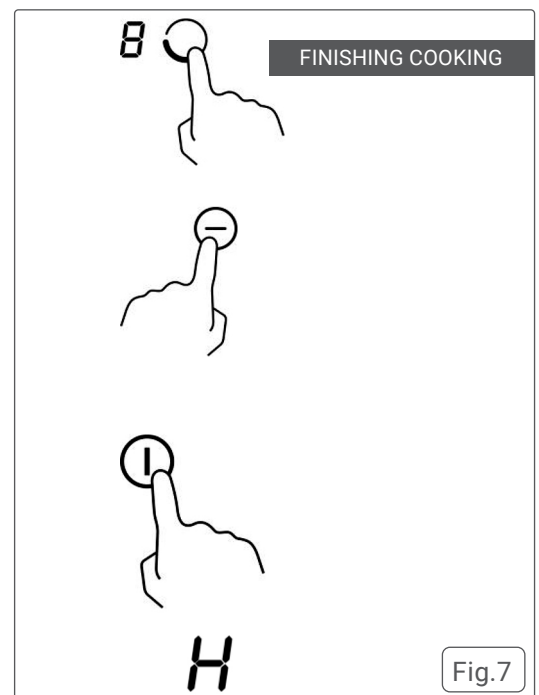
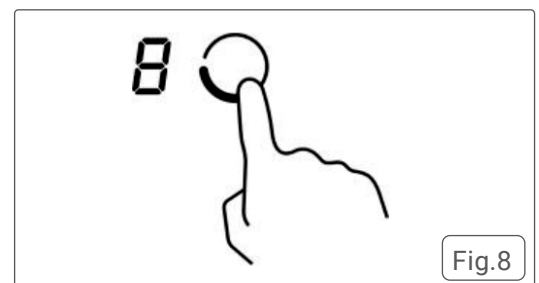

Fig.7
Fig.8
• FINISHING COOKING (See fig.7)
- Touch the dual zone key ②. The indicator display will show "=", confirming that the extended zone is activated.
- To cancel outer zone, press the dual zone key ② to turn off the second heating circuit, then select the desired power level by touching the "slider" control.
1. Select the cooking zone with the Keep Warm function (front left zone). Fig.8.